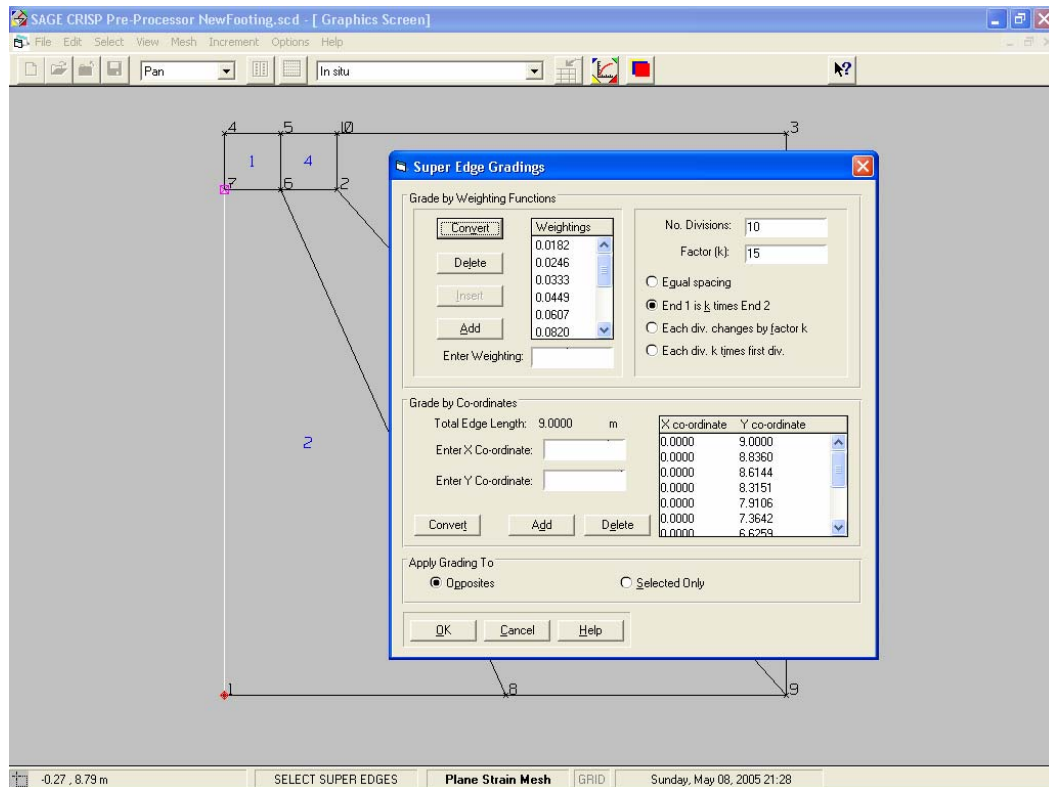

Figure 16 Defining Edge Gradings on vertical side and opposite sides
- Step 28** Enter '10' into the **Number of Divisions** text box and click on the **End 1 is k times End 2**. option. Enter '15' into the **Factor (k)** text box. Weighting values will be automatically entered and the dialogue box should now look like Figure 16.